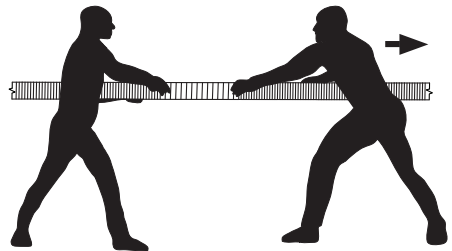

Figure 5
- Start by facing each other at the mid-point in the liner (*Figure 5*).